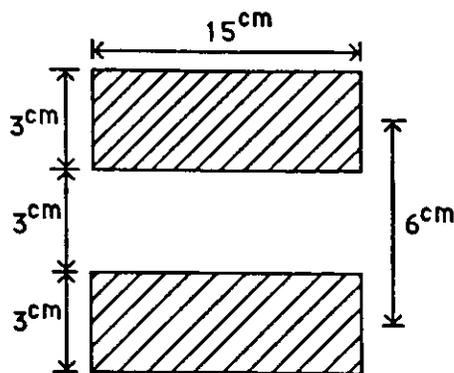

Figure 3 Target design
- Figure 3 Target Design
$$\frac{1}{\frac{60\text{mm}}{\text{line}} \times \frac{1}{600}} = 10 \text{ lines/mm as shown by Figure 3}$$